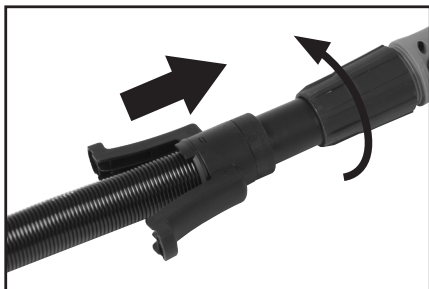

Fig. 2
- Insert the Flexible Dust Extraction Hose into the machines main dust extraction tube/handle, and push it fully 'home'. (Fig. 2)